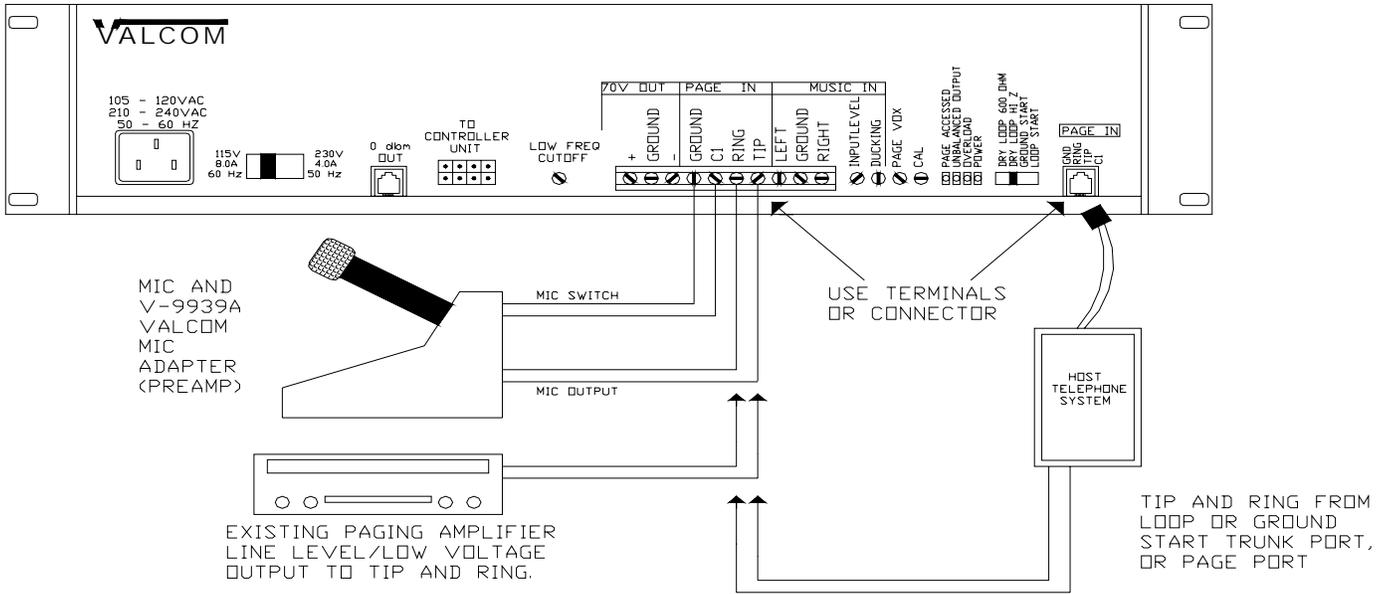

Figure 6. Host Telephone System Connection
5. Connect host telephone system to AmpliCenter (page 5 - Figure 6).